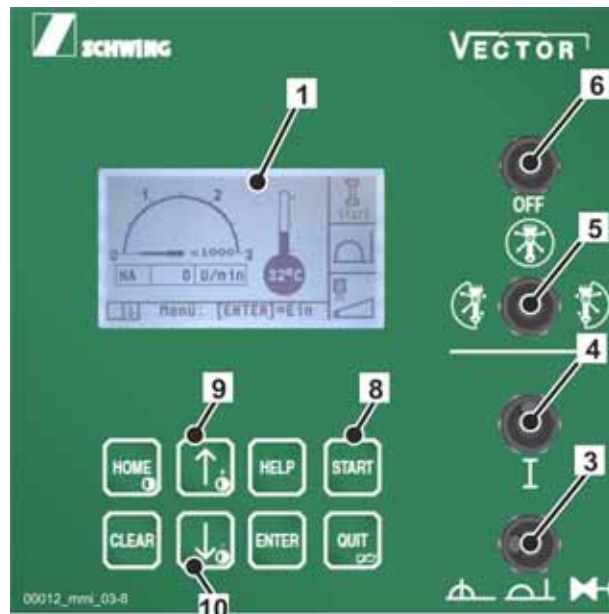
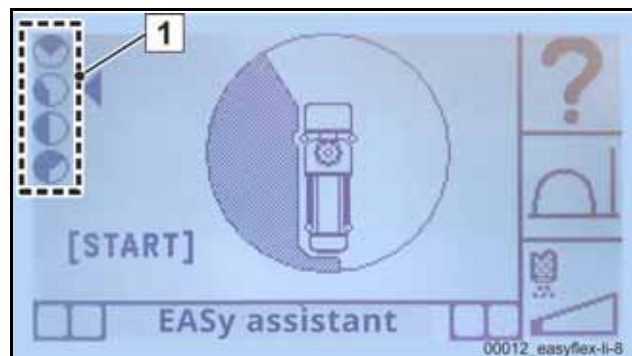

Fig. 511 Control panel of the VECTOR control.
Fig. 512 Example: Selection of EASy "left" variants
The display (1) (**Fig. 511**) and the buttons (8) to (10) are familiar elements from the VECTOR control system and also play a role for EASy-flex:
The buttons (9 + 10; **(Fig. 511)**) are required in order to select the EASy variant (1; **(Fig. 512)**) when the machine is equipped with EASy-flex.
- or EASy-flex, by selecting a work area ((**Table 16**); column 1 or 3) using the selector switch (5; (**Fig. 511**)).
Move the selector switch (5) (**Fig. 511**) to centre position:
- Confirm the selection of full support with the "OFF" button (6; (**Fig. 511**)).